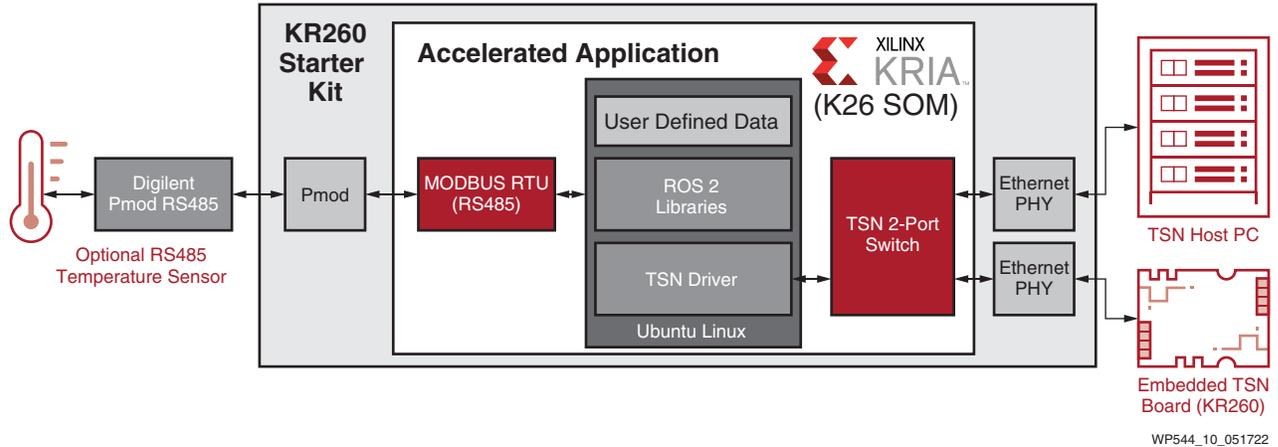

Figure 10: ROS 2 Multi-Node Communications via TSN
- ROS 2 Multi-Node Communications via TSN: Creates a ROS 2 DDS publisher-subscriber node using TSN MAC-layer communication over Ethernet connection. See Figure 10.